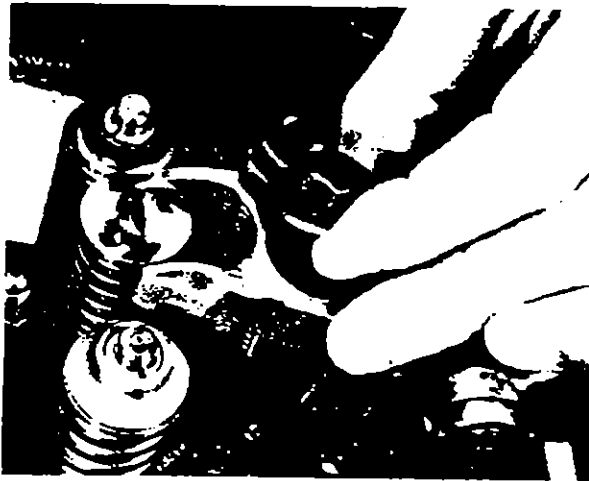

Fig. 1.6.18
1. On engines equipped with high mount injector clamps, remove the clamp by removing the bolt and special washer. Replace with a Jacobs high mount clamp and use the same washer and bolt (Fig. 1.6.18). Tighten the bolt to 25 lbft. (35 N•m). The Jacobs clamp can be identified by a small milled section on one side. This provides clearance for the exhaust valve stem cap.